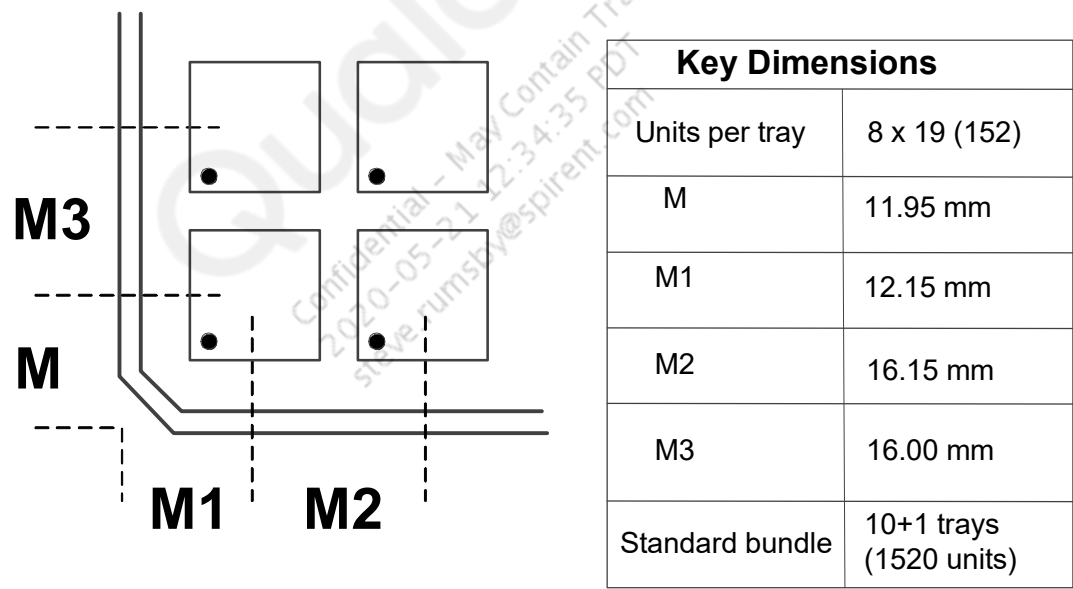

Figure 5-3 Matrix-tray key attributes and dimensions
All QTI matrix tray carriers conform to JEDEC standards. Each tray of the QCN9074 contains up to 8x19 (152) devices. See Figure 5-3 for matrix-tray key attributes and dimensions.